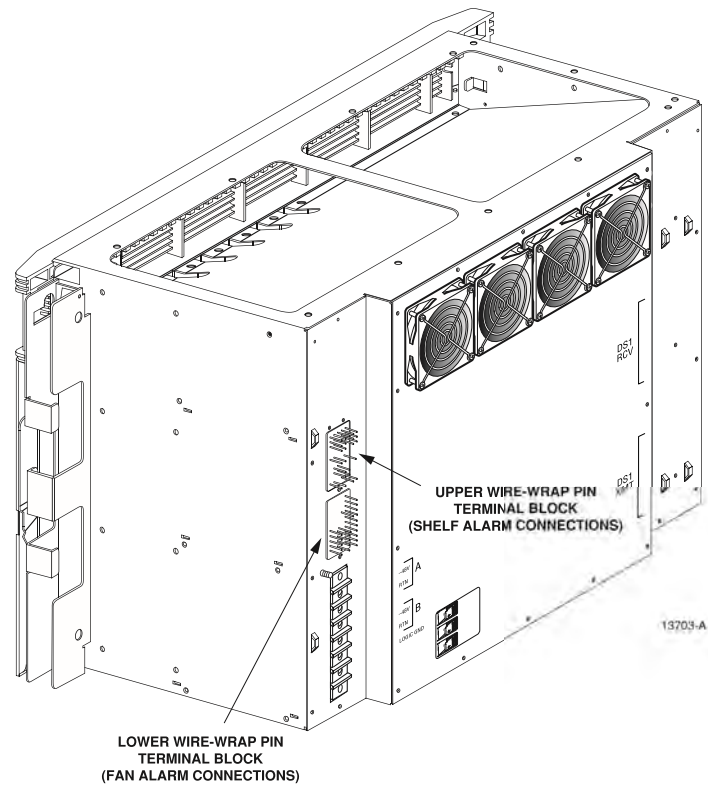

Figure 4-6. Upper and Lower Wire-Wrap Pin Blocks Location
2. Locate the upper wire-wrap pin block at the rear of the HDT chassis as shown in Figure 4-6.
2. Locate the lower wire-wrap pin block at the rear of the HDT chassis (see Figure 4-6).